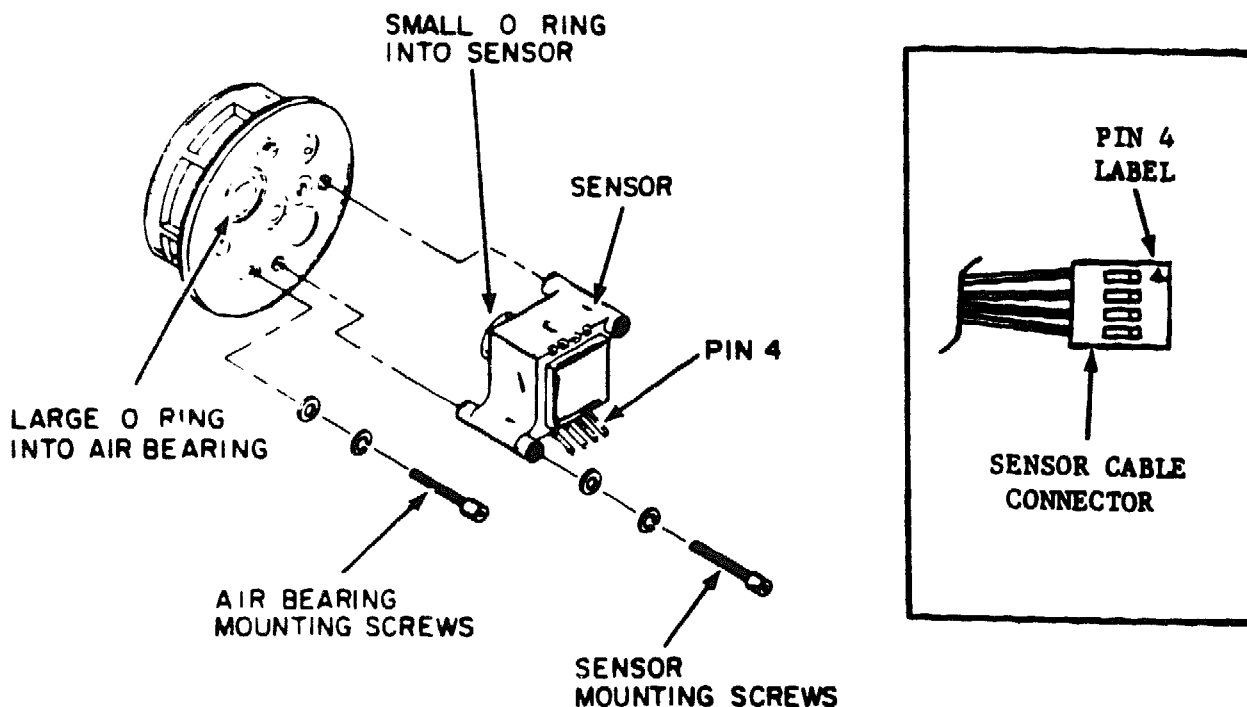

Figure 5-13. AIR BEARING SENSORS
7. Remove the O ring from the air bearing housing. See Figure 5-13.